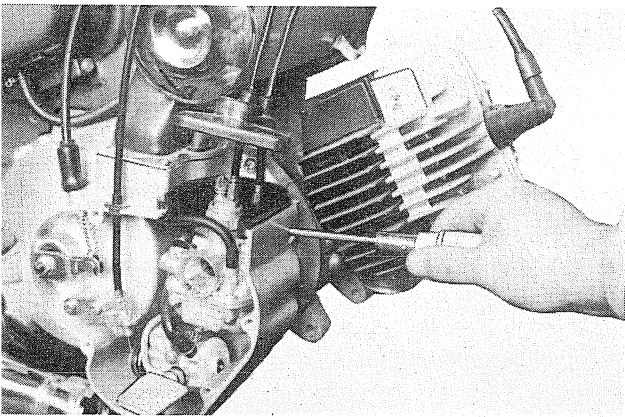

Fig. 3-1-13
10. Turn the fuel cock to the STOP position, and remove the carburetor. (Fig. 3-1-13)